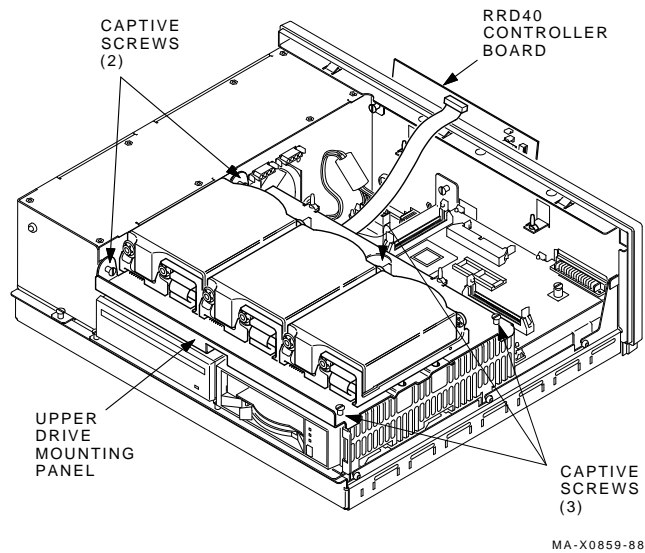

Figure 7-20 Mounting the Upper Drive Mounting Plate
2. Position the upper mounting drive plate on the system box (Figure 7-20) and tighten the five screws.